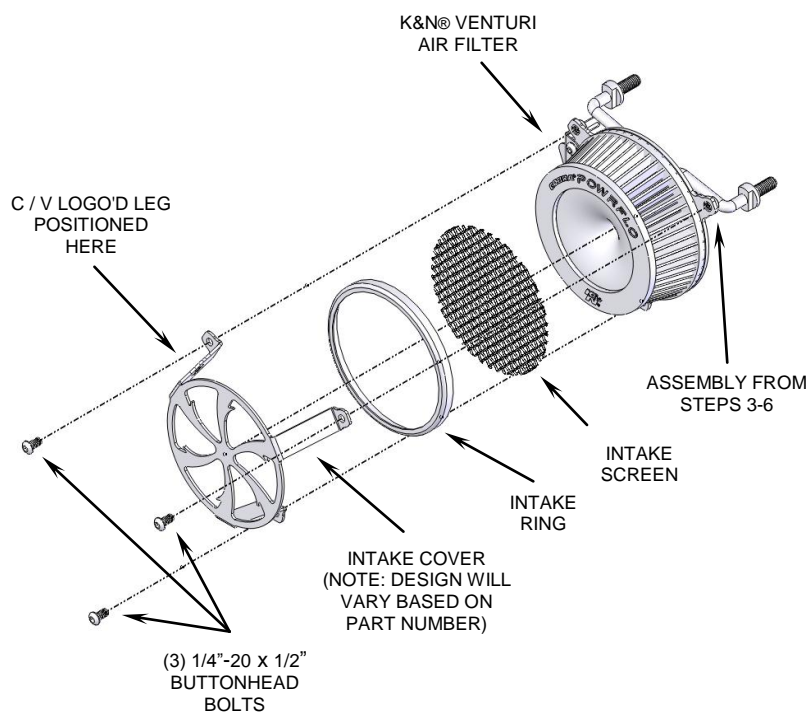

FIGURE 2
5. Insert the breather bolts into the cylinder heads and full tighten. Now snug the (3) buttonhead bolts evenly, and then fully tighten them to the throttle body.
7. Place the supplied K&N® filter onto the velocity stack. Insert the round intake screen into the chrome ring so the screen sits inside the edge of the ring. Place the ring and screen between the legs of the naked chrome intake cover as shown in Figure 2.
8. Place the naked intake cover, ring and screen assembled in Step 7, over the air filter and align each leg to the base mounting plate threaded holes. Be sure screen sits at a 45 ° angle to the bottom leg, and C/V logo'd leg is at the upper left position. Insert the (3) supplied 1/4"-20 x 1/2" buttonhead bolts through the intake cover and into the base mounting plate, see Figure 2. Double check all parts are aligned properly and tighten securely.